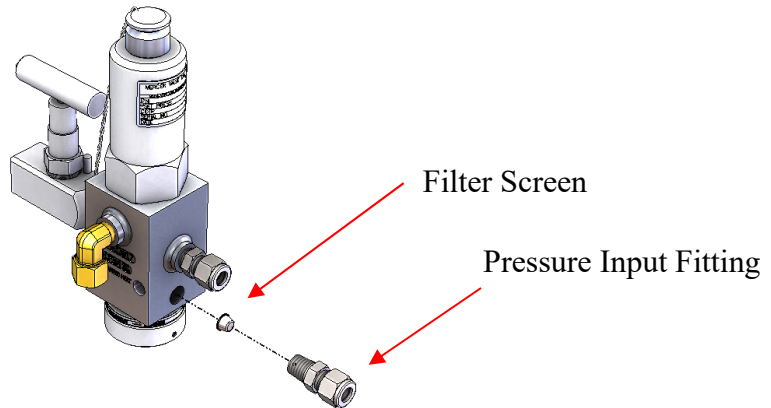

Figure 20: Exploded View of Typical Filter Screen Location on a Snap Pilot Valve
6. Remove the tube-to-pipe fitting. See Figure 20.